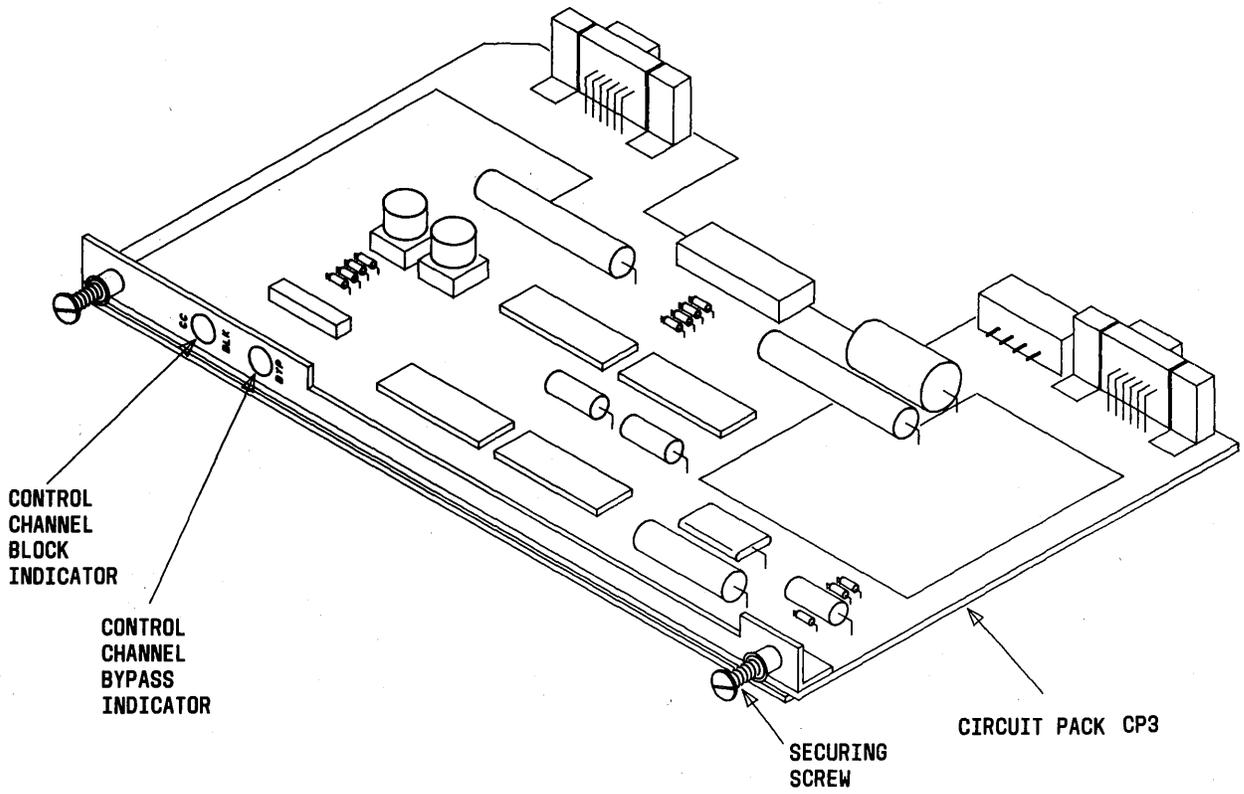
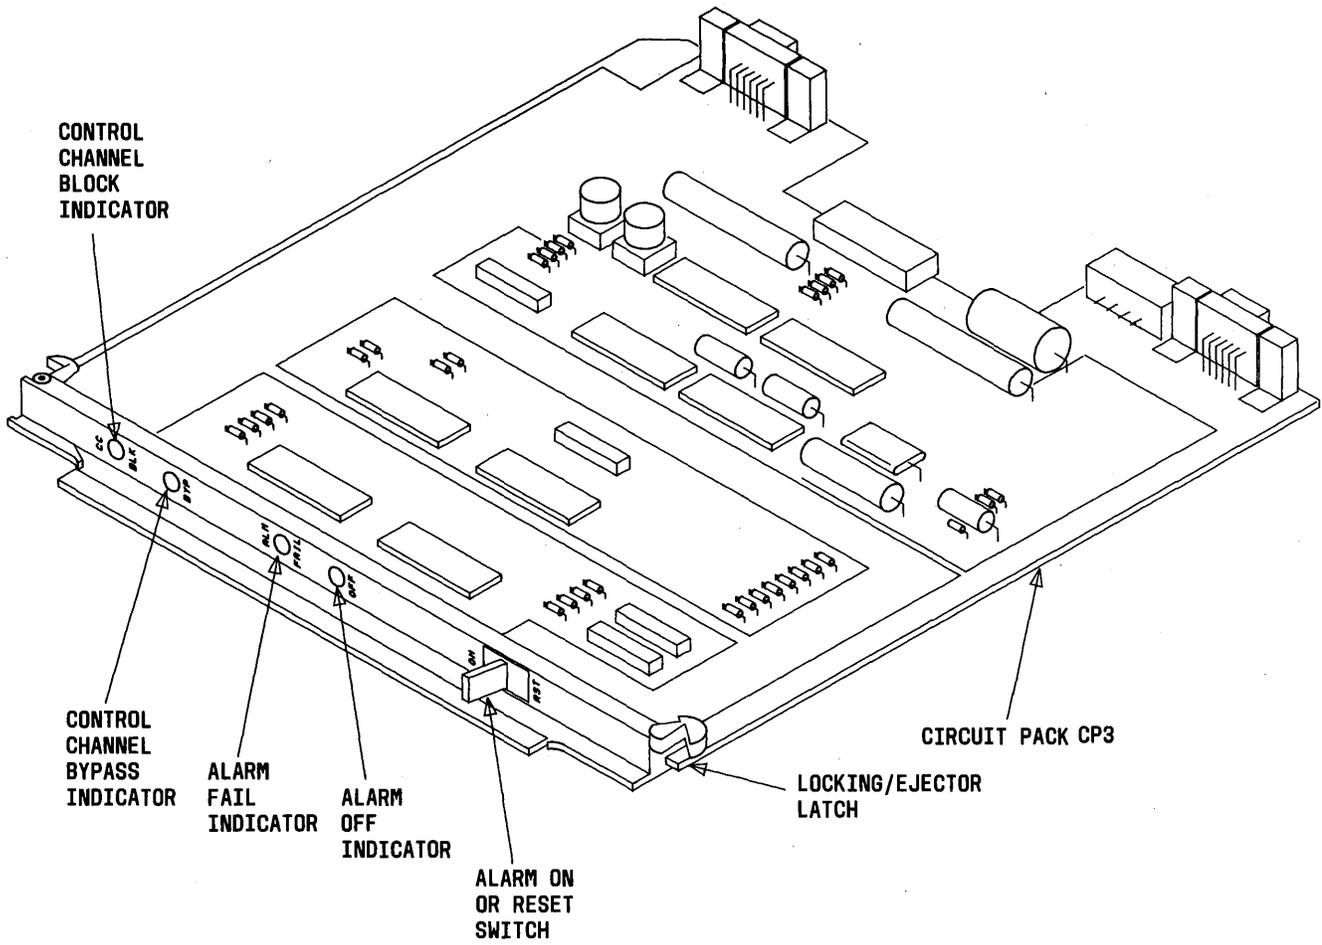

Fig. 5—Circuit Pack CP3 of 64A-Type Data Mounting
Fig. 6—Circuit Pack CP3 of 64C-Type Data Mounting
3.04 The circuit pack CP3 (Fig. 5) on 64A-type data mounting is secured by two screws and has two light-emitting diodes (LEDs) marked as CC-BLK (RED LED) and CC-BYP (GREEN LED). The circuit pack CP3 (Fig. 6) on 64C-type data mounting has plugs similar to a data set and has two additional LEDs, ie, ALM FAIL (RED LED) and ALM OFF (YELLOW LED) and a 3-position paddle switch.